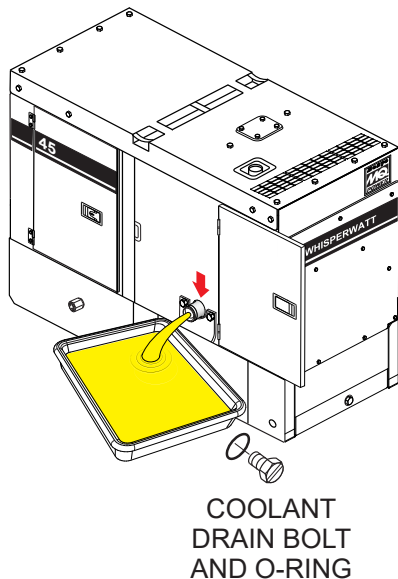

Figure 73. Draining Engine Coolant
2. Open the cabinet door and remove the **coolant drain bolt and O-ring** (Figure 73), then allow the coolant to drain into a suitable container.